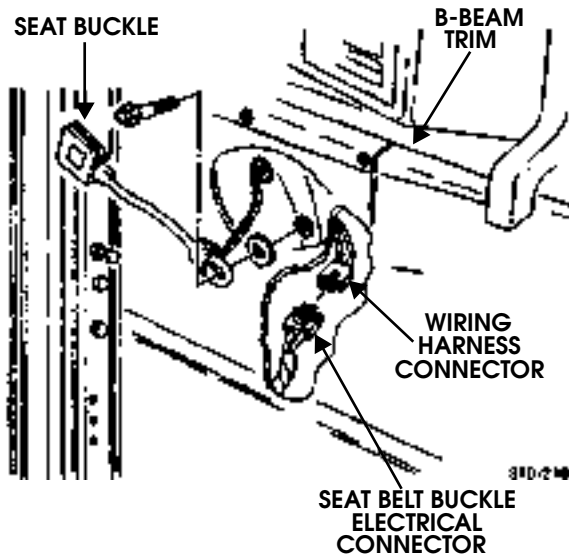

Figure 10-50: Seat Belt Buckle Electrical Connector Location
2. Remove bolts, washers, and seat buckles from front and rear of tunnel (Figure 10-50).
8. Connect driver side seat belt buckle electrical connector (Figure 10-50).